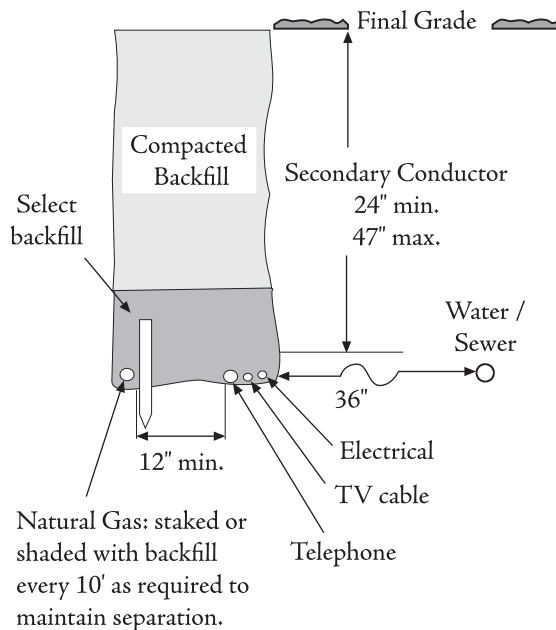

Figure 4-1
2. The minimum cover required for secondary (0 - 600V) shall be 24 inches. Refer to Figures 4-1 and 4-2.
3. The minimum horizontal and vertical separation between electric and gas shall be 12 inches. The gas line shall be staked or shaded with backfill every 10 feet or as required to maintain separation. The minimum separation between electric and water or sewer shall be 36" horizontal and 12" vertical at crossings. Refer to Figure 4-1.